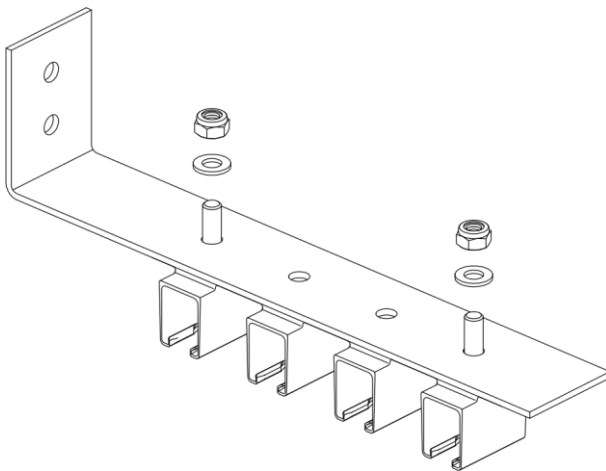
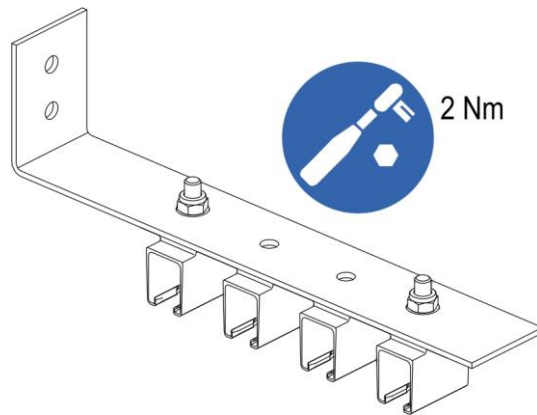

Fig. 70: Insert the compact hanger clamp into the holes in the C-rail
Fig. 71: Screw on the compact hanger clamp
- Tighten the screw connections with the prescribed torque (SW 17 (outer), torque wrench: **2 Nm**) and a hexagon screwdriver SW 6 (inner) (see Fig. 70 and Fig. 71).